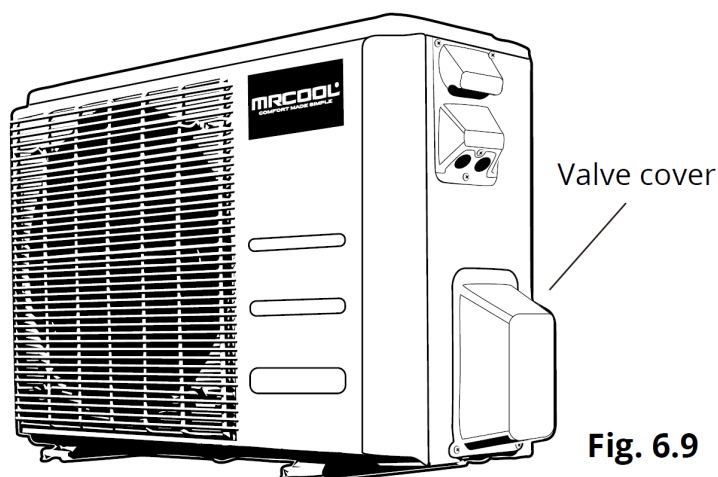

Fig. 6.9
1. Unscrew the cover from the packed valve on the side of the outdoor unit. (See Fig. 6.9)